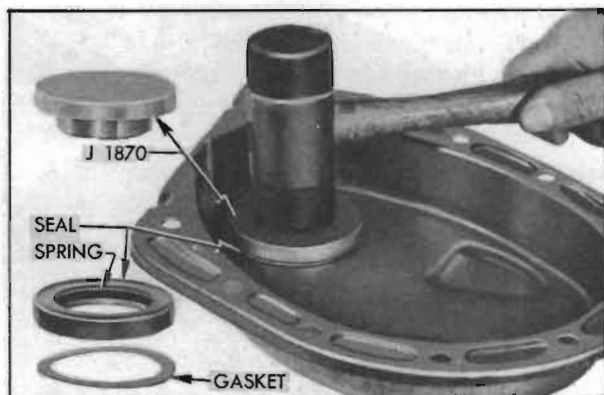

Figure 2-25—Crankshaft Oil Seal and Gasket Installation
The crankshaft oil seal is pressed into a recess in timing gear cover and a gasket is used to prevent leakage around the seal. See figure 2-25.
3. Drive oil seal into recess and tight against the gasket, using Oil Seal Driver J 1870. See figure 2-25.